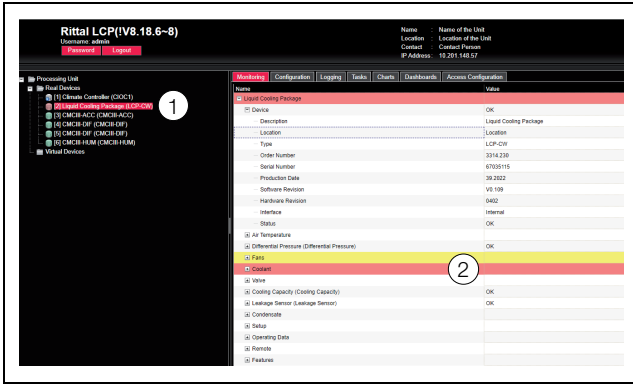

Fig. 136: Selecting multiple parameters
- Simply open the "Liquid Cooling Package" entry by clicking on the "plus" symbol in front of that entry (fig. 136, item 1).
- Position the mouse pointer at the end of the first column in the "Location" line (fig. 136, item 2).